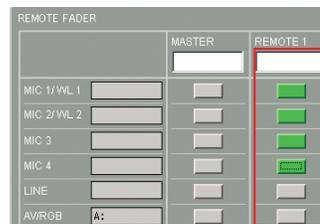

Fig. 14 REMOTE FADER Screen
2. Click MIC1 to MIC4 in the REMOTE1 line on the REMOTE FADER screen (Fig. 14).